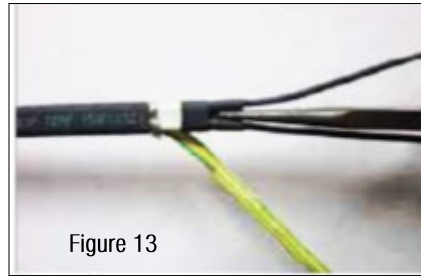

Figure 13
Step 13. While tube is still hot, pinch tube with pliers, between wires, and hold for 10 seconds to ensure seal. See Figures 13.